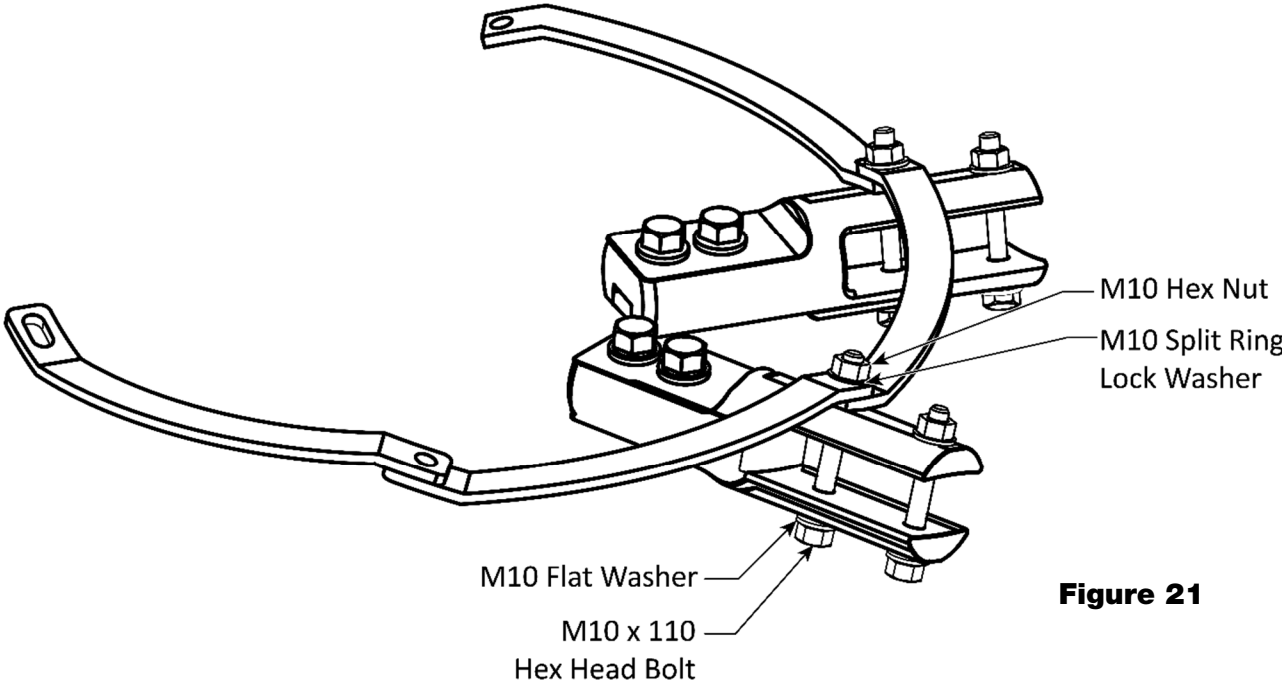

Figure 21
2. Install the Arc Plate Sections onto the Fan and secure fasteners as detailed in **figure 21**.